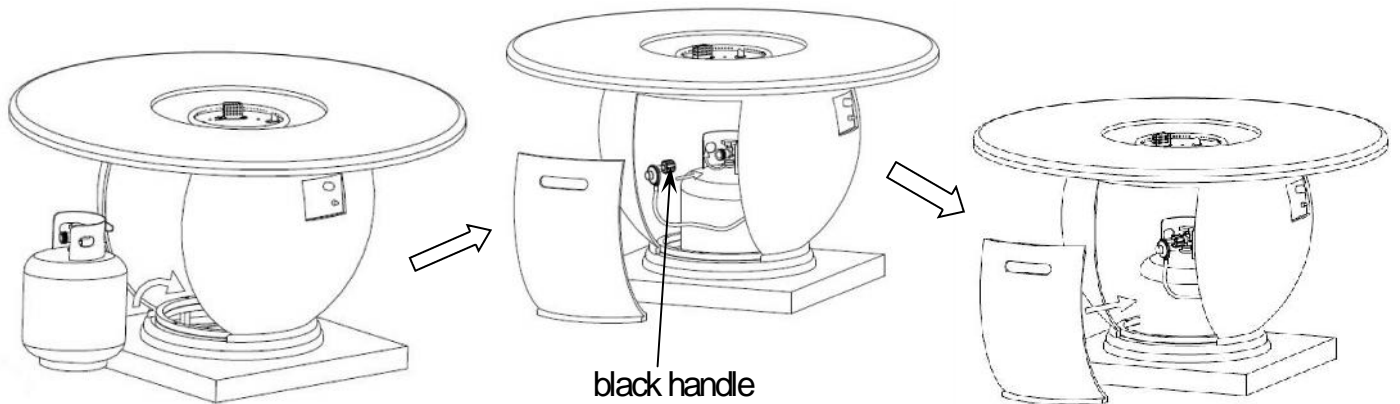

Figure 4
4. Open the door, place the gas cylinder into the cylinder support, connect the regulator, screw the black handle clockwise to tighten, turn the black handle counterclockwise to remove. The hose must point down. The knob on the control panel is turned all the way to the "OFF" position when the fire pit is NOT in use. Close the door after the assembly is done. See Figure 4.